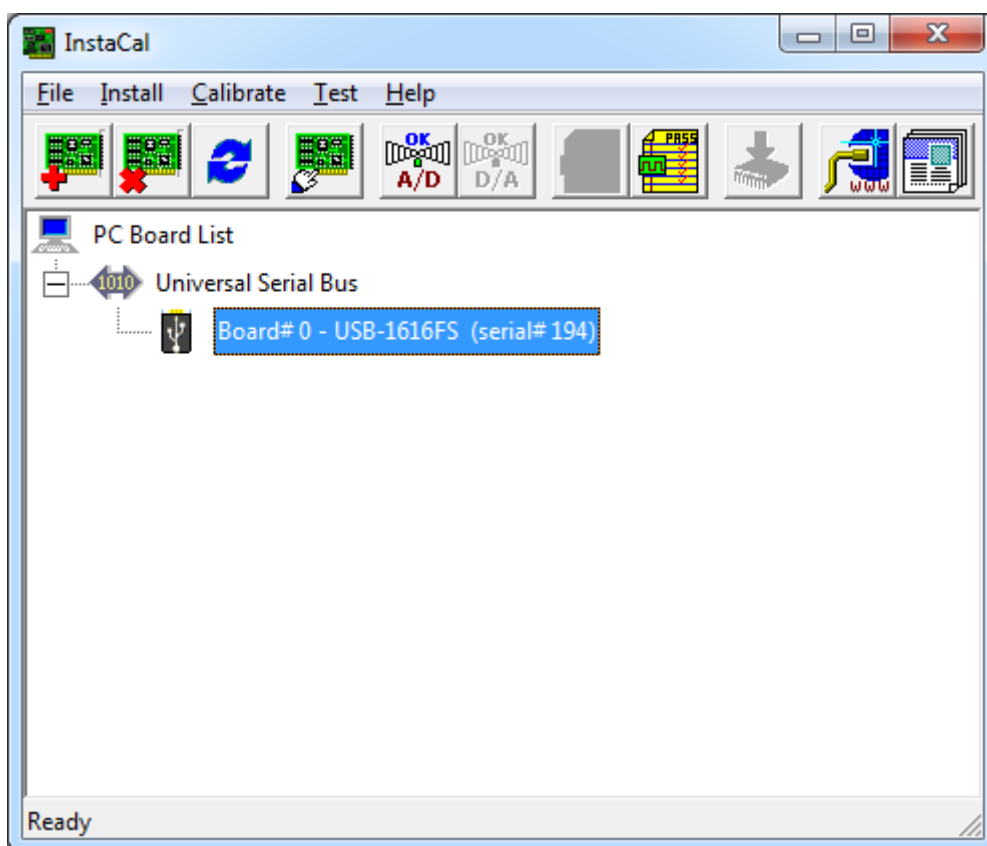

Figure 3. PC Board List.
- You have successfully configured DAQ system and it must be listed under the PC board list (Figure 3).